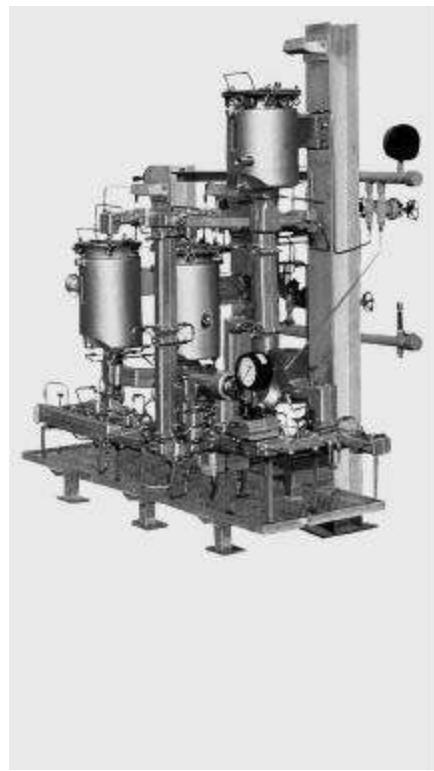

Figure 9
1. A polymer additive system operating at 260 degrees Celsius consisted of melt-pots, pumps, meters, and valves (Fig. 9). It was designed to allow an R&D facility to quickly vary formulations of polymer additives and provide the optimizing data to production. Hot oil heating was selected for this application.